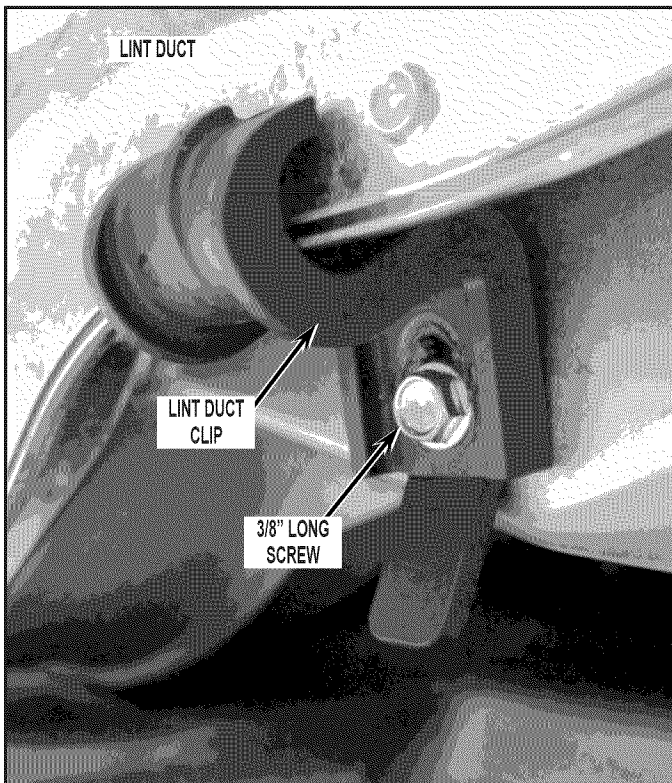

FIGURE 39
- When reattaching the blower housing lint duct and its screws, see *Figure 11*, verify the lower plastic lint duct clip is hooking the lint duct correctly. See *Figure 39*.